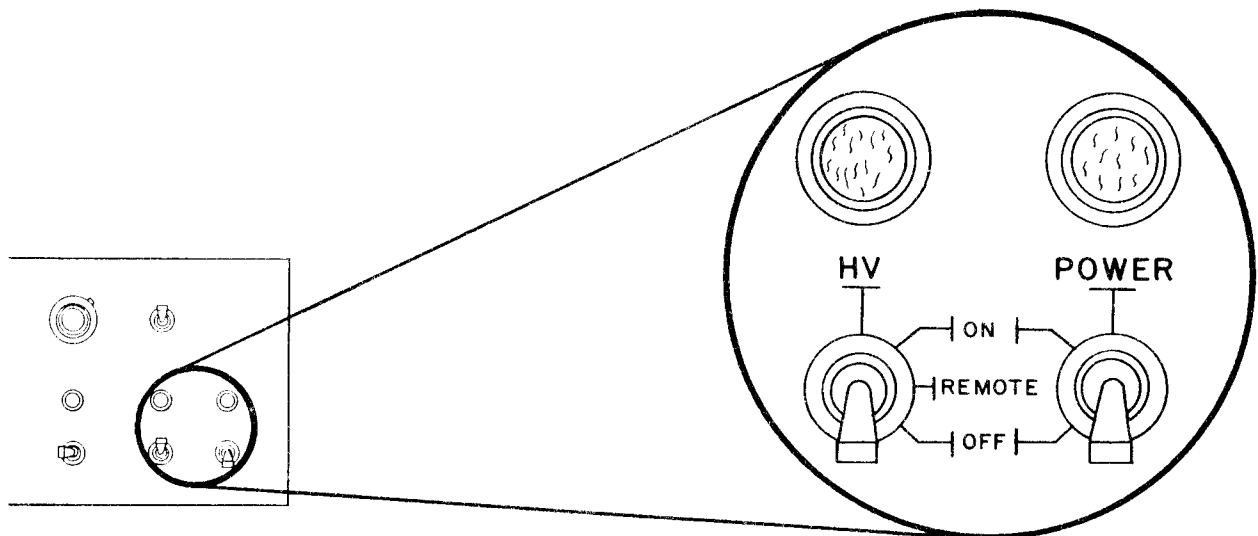

Figure 51. POWER and HV Switches to OFF
- a. Ensure the POWER switch and the HV switch are set to the OFF position (see Figure 51).